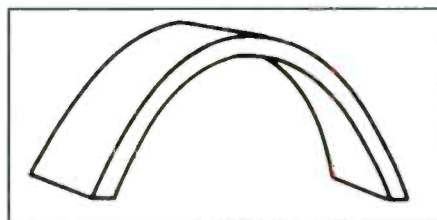

Figure 3. When a piece of flat metal is formed into a shape as shown here, is the metal stressed or strained?
10. The shape of a flat piece of metal has been changed as shown in Figure 3. In that condition the metal is